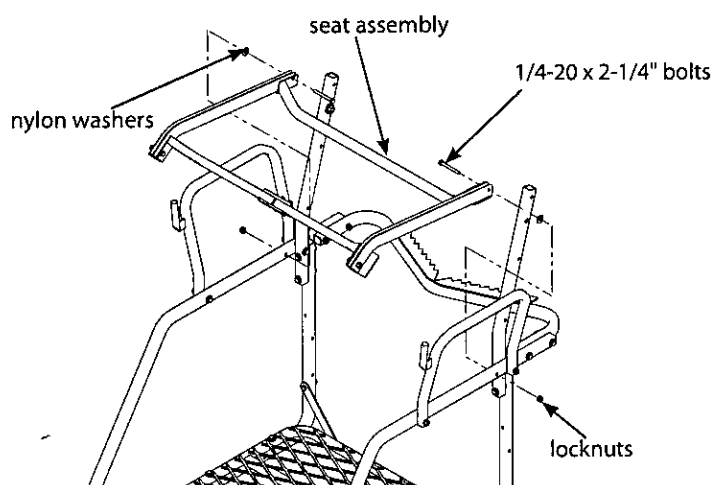

Figure 7
Remove the locknuts from the (2) 1/4-20 x 2-1/4" bolts that were previously attached to the rear of the seat assembly. Continue by attaching the seat assembly to the ladder side rails using (2) provided 1/4-20 x 2-1/4" bolts, locknuts and nylon washers. **SEE FIGURE 7. Make sure all (4) angle brackets are fully cradling fabric rails.**